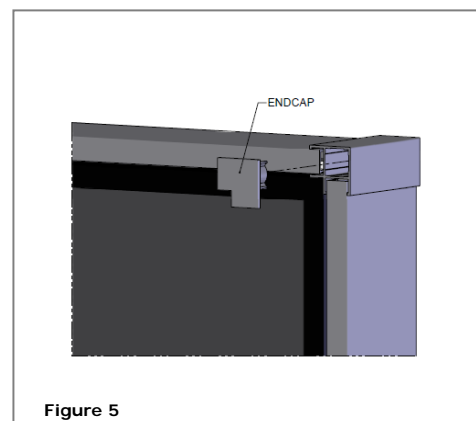

Figure 5
6. Press the endcaps into the posts. **See Figure 5.**